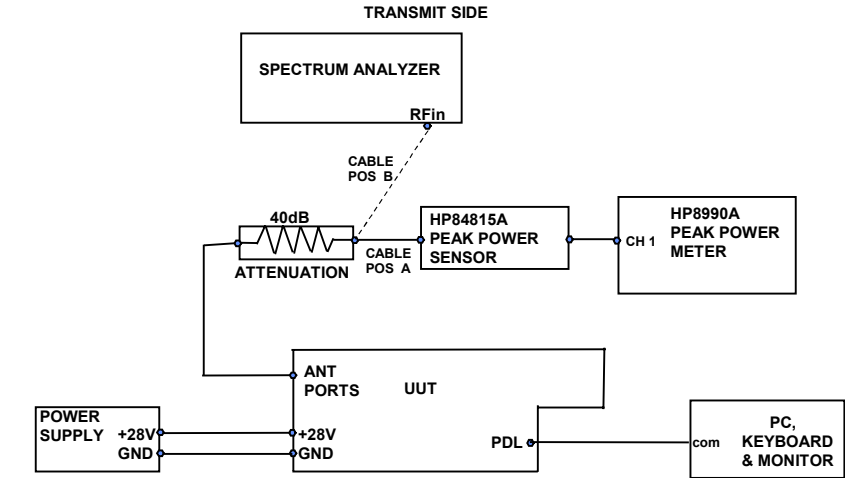
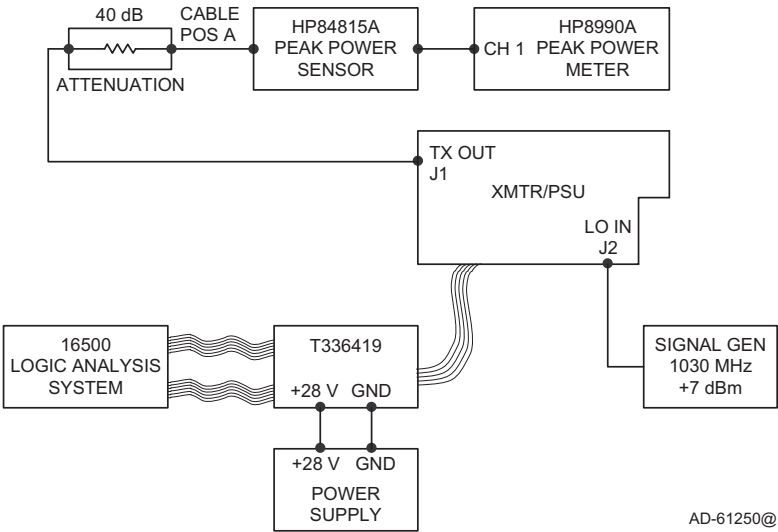

Figure B-1A. End Item Level Transmitter Calibration Setup
Figure B-1B. Module Level Transmitter Calibration Test Setup
N	The calibration process may be performed at either the RT-950/951/952 computer End Item level or at module level. Use sections 2.1.1, 2.3, 2.4.2, 2.5, 2.6, 2.7, 2.8.2 and figure B-1A for RT950/951/952 computer End Item level transmitter calibration. Use sections 2.1.2, 2.2, 2.4.1, 2.8.1 and figure B-1B for module level transmitter calibration. Section 2.9 is performed at the receiver module level, while sections 2.10 through 2.13 are performed at the End Item level. NOTE: Except where otherwise noted, primary references to the components on the receiver utilize reference designators from the 751945-903. Additional reference designators listed in parenthesis are equivalent reference designators from the 751945-904. If only one reference designator is listed, it is describing a component on the 751945-903 and, if required, the technician should find the equivalent component on the 751945-904 by comparing schematics of the two receiver designs. All connector reference designators are the same on both receiver designs.
2.1.1 End Item Calibration Test Setup a) Set up the transmitter calibration equipment per figure B-1A and make all necessary connections per table B-1. The P.C. must be a 386 minimum with PROCOMM software. All script files referenced in the calibration procedure are available from PS7517976. b) Transmitter alignment may require the unit's cover to be removed to gain access to the various test select parts and adjustments which may need to be altered. The spectrum filter must be aligned prior to calibrating the transmitter. Operating the transmitter into an improperly aligned spectrum filter may result in transmitter damage. It is recommended that the spectrum filter alignment procedure be performed at the subassembly level (7517923) prior to assembly in the Transmitter module. The spectrum filter alignment procedure is outlined in section 2.2. Use the following procedure to prepare for RF transmitter alignment and spectrum filter tuning: - Remove the unit's outside slip-on cover (if attached). Loosen the two Dzus fasteners (cam-locks) located on the back of the box near the ARINC 600 connector. Slide the cover off the chassis assembly. - The four variable capacitors in the transmitter are accessible through holes in the A2 Processor CCA without any further disassembly of the unit. - If the spectrum filter has been aligned per section 2.2, connect the 53 pin circular connector to the ARINC 615 front panel PDL connector, and apply power to the unit per figure B-1A.
F	2.1.2 Transmitter/Power Supply Module Calibration Setup Refer to figure B-1B for Transmitter/Power Supply Module Calibration Setup.
This step sets the oscillator frequency by adjusting a potentiometer on the A5 RCVR I/O CCA while transmitting full power. The potentiometer can be accessed through a screw hole in the front cover of the TCAS 2000 unit. First remove the large Phillips head screw just above and toward the right side of the unit handle. Potentiometer A5R623 on 7517945-903 (A5R612 on 7517945 904) should now be accessible through the screw hole. A clockwise rotation of the potentiometer will decrease the frequency of the unit. While monitoring the frequency output on the spectrum analyzer, repeat the following commands and adjust the potentiometer until the frequency is 1030.0 MHz +/- 1 kHz. Set up the UUT using the test setup shown in figure B-1A with the cable in cable position B. Select the following spectrum analyzer settings: • VBW=3 kHz • RBW=1kHz • Span 100 kHz • Sweep = 50 msec • 10 dB/div. • Ref = 0 dBm • Atten = 10 dB With a minimum of 40 dB attenuation in series with the RF cable, connect the RF cable between the 0 degree top antenna connector and the spectrum analyzer. NOTE: It is critical that the 40 dB attenuation be present to prevent damage to the spectrum analyzer. From the script file menu, select the file FREQ.ASX. This file will cause the transmitter to transmit a long P6 pulse with no data. Allow the UUT to transmit enough pulses such that the spectrum analyzer display becomes smooth. Identify the peak of the spectrum by performing a peak search on the spectrum analyzer. If the frequency of the peak is within 1030.0 MHz +/- 1 kHz, calibration is complete. Otherwise adjust A5R623 (A5R612), refresh the spectrum analyzer display, and wait until the display on the spectrum analyzer is smooth again and identify the new peak of the spectrum. Repeat this process until the oscillator frequency is within the acceptable range. Replace the Phillips head screw in the front cover of the TCAS 2000 unit and tighten to the appropriate torque requirement. After calibration of the oscillator frequency, the user must repeat the measurements taken in step 2.4 to verify that the transmitter peak power and rise times still meet the requirements. It is possible that the adjustment in oscillator frequency could slightly affect the peak power or rise time.